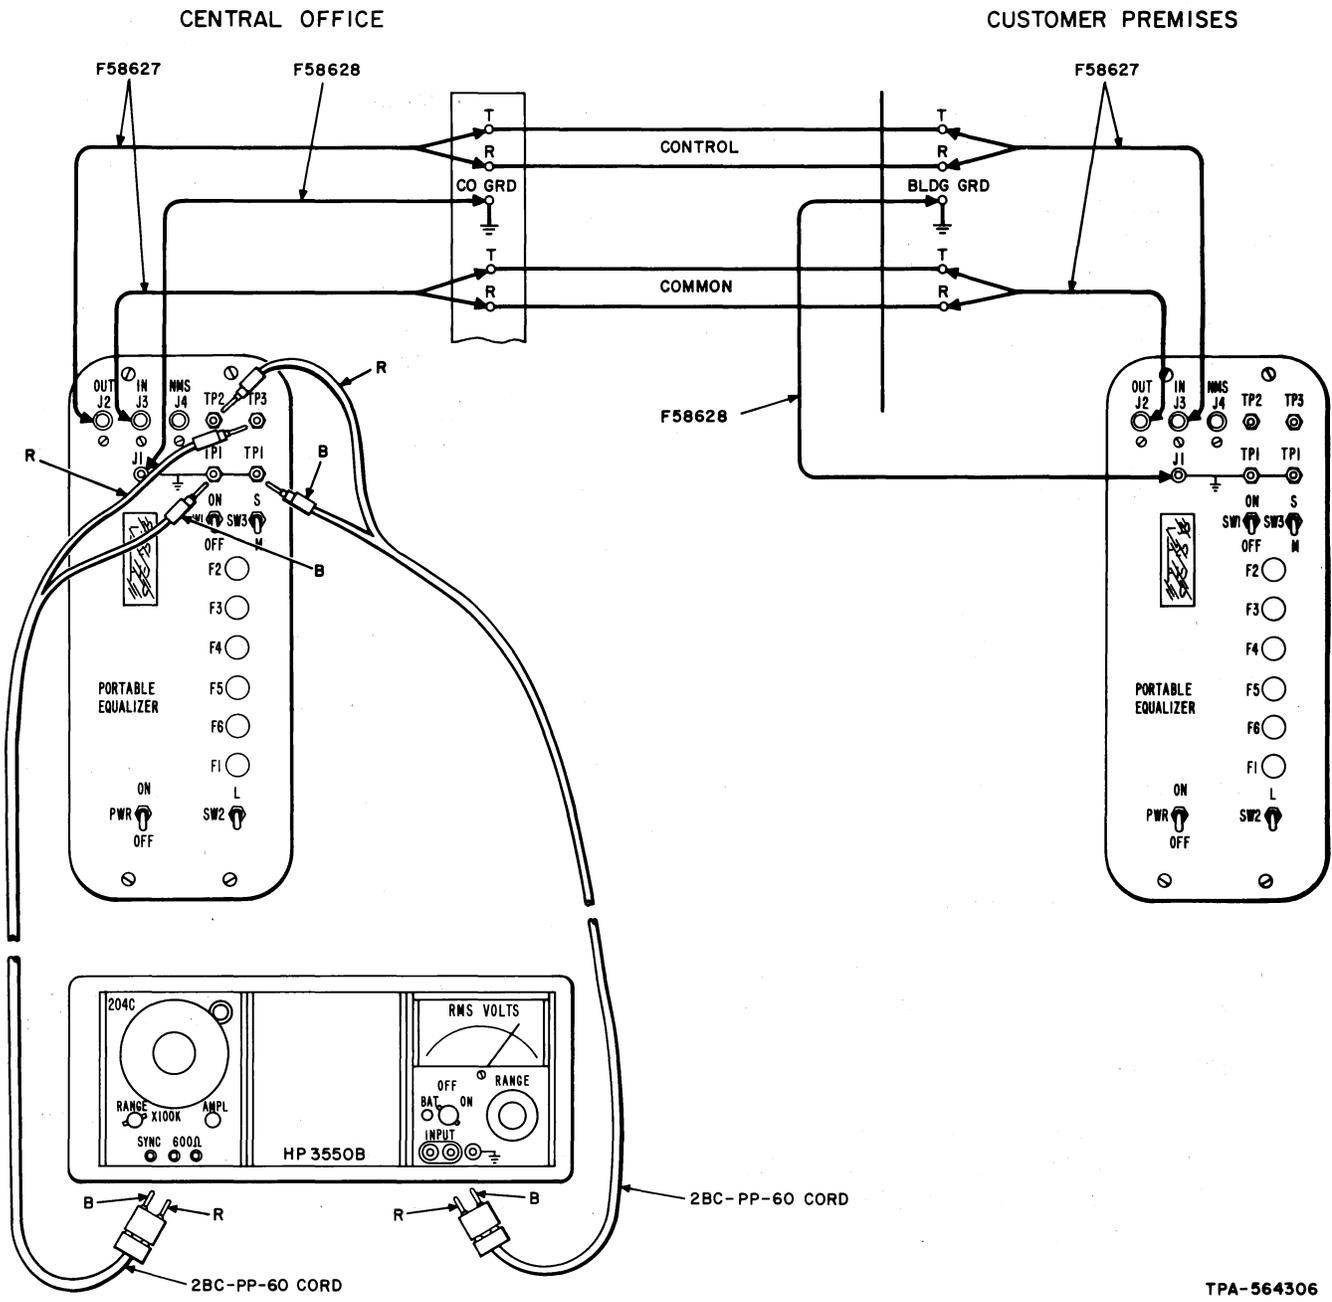

Fig. 13—Transmission Test
4.13 At customer end set SW1 switch to up position on PE. See Fig. 13.